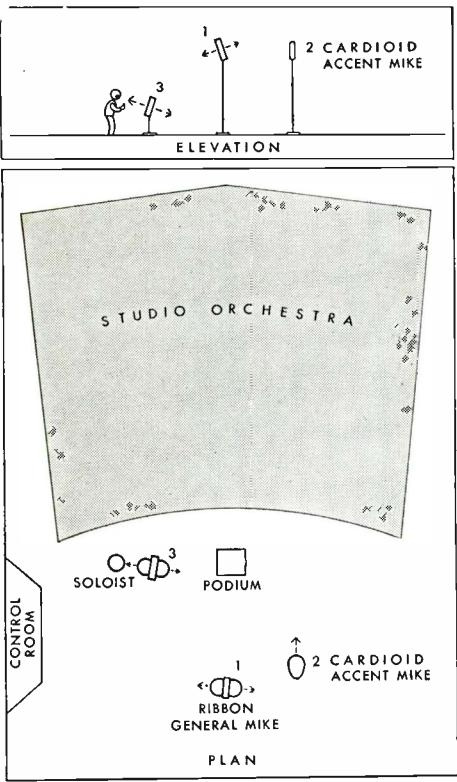

Figure 7—Plan and elevation of overcrowded studio.
(1) Place a bidirectional microphone, such as "1", Figure 7, with its insensitive direction pointing toward the orchestra. In practice this microphone will act as if  $G_p$  (see Equations 1 and 2) had a value of  $1/4$  to  $1/3$ .